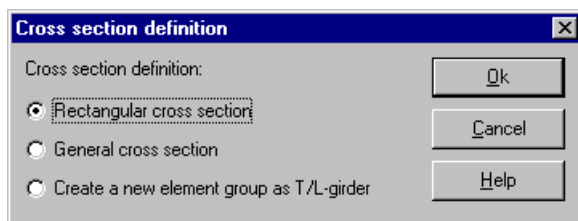

Figure 7-12 "Cross section definition" option box
- The following option box in Figure 7-12 appears